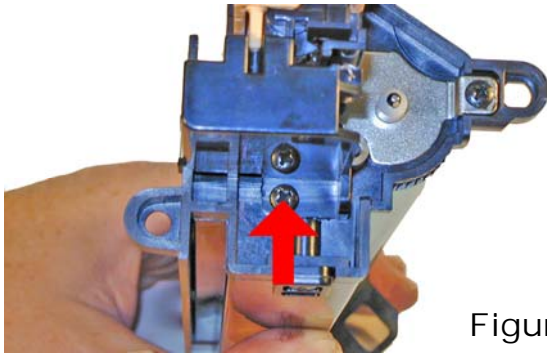

Figure 57
49) Clean any remaining waste toner from the handle/end cap. Install the end cap and screw. See **Figure 57**